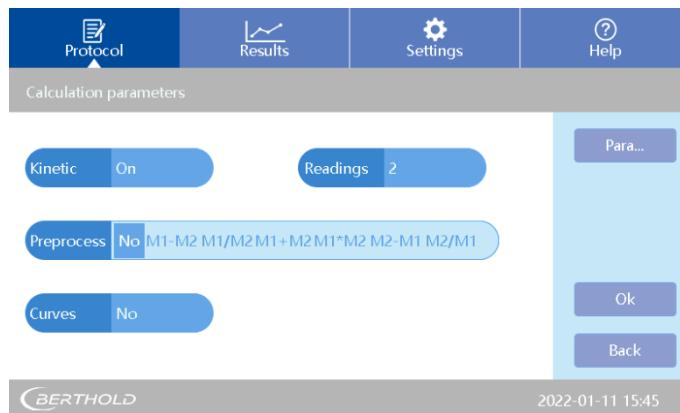

Fig 29: Preprocess calculation options
This submenu is for double wavelength measurement only. The two wavelength measurements M1 and M2 can be charged differently. See Fig 29.
- Click on the right side of the <Preprocess> button in the [Calculate parameters] interface. A menu as shown in Fig 29 will appear.